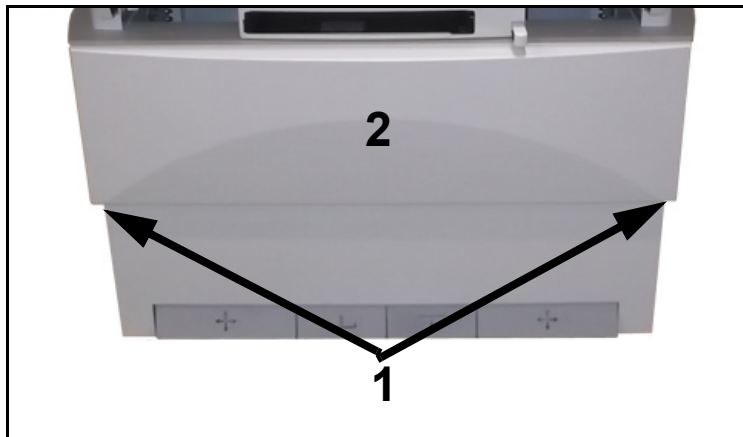

Figure 4-1. Upper Panel Screws
- 3 Unscrew the upper panel screws (1 in Figure 4-1), tilt panel (2) out, and lift off from the table.